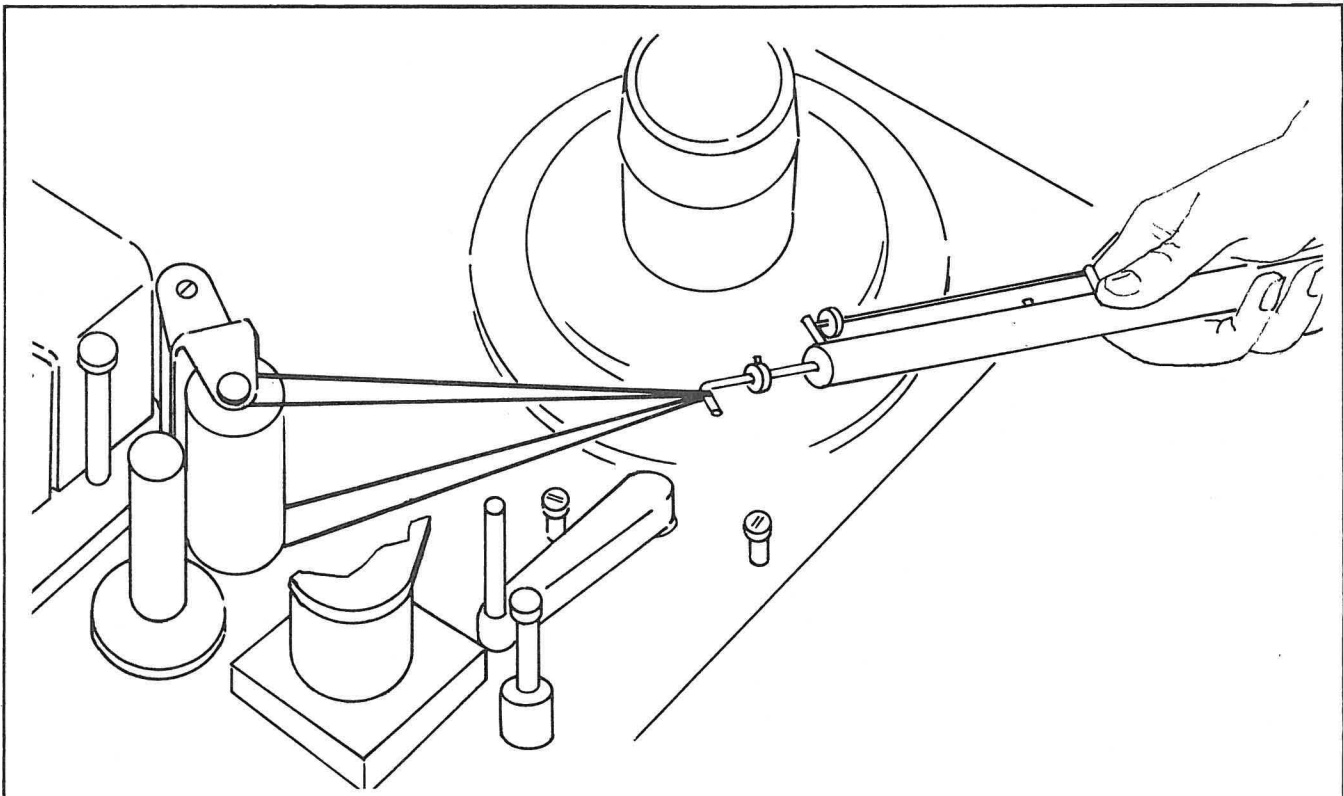

Figure 5-8. Pinch Roller Adjustment
1. Wrap a 12-inch knotted piece of lacing, nylon cord, or thin twine around pinch roller yoke as shown in Figure 5-8. Insert hook of 10-lb scale in cord loop.